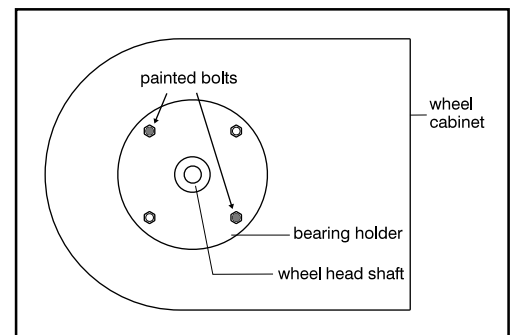

Figure 2
5. Using the spanner wrench (provided), remove the 2 painted bolts on bearing holder (figure 2).
5. Loosen all bolts in bearing holder (figure 2); belt tension will automatically adjust.